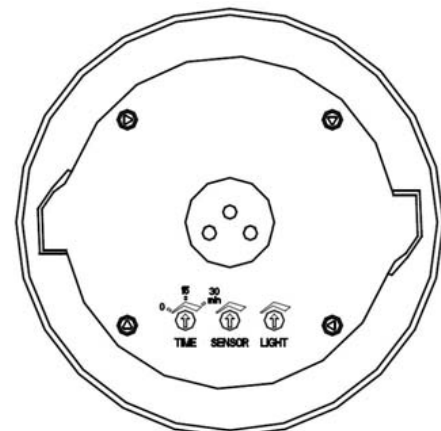

Fig. 4
5. Find the back of sensor (refer to Fig 4). Set Time-delay, Light and Sensor as detailed in the SENSOR ADJUSTMENT & PROGRAMMING section.